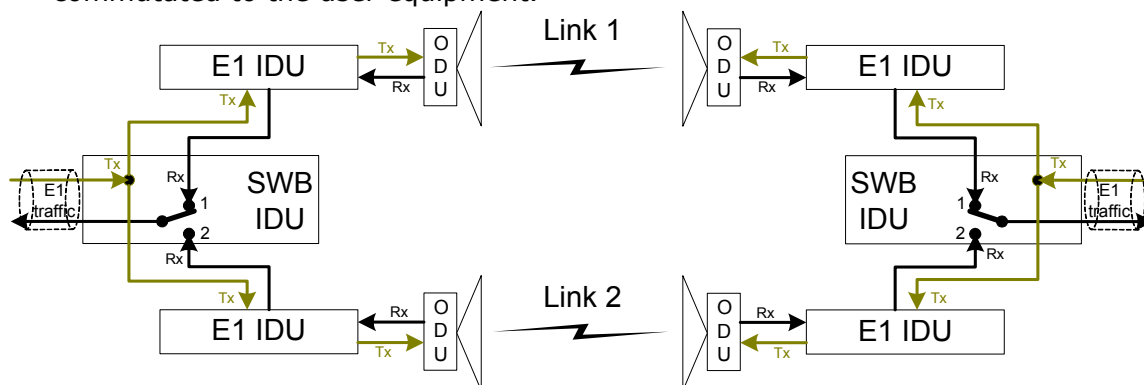

Figure 5. Far-end Independent traffic switching mode
1. *Far-end Independent Mode*, - in this mode there must be two independent links operating simultaneously in parallel (Figure 5); Both links operate in different frequency channels, transmitters of all ODUs (two on each side) are permanently switched on.